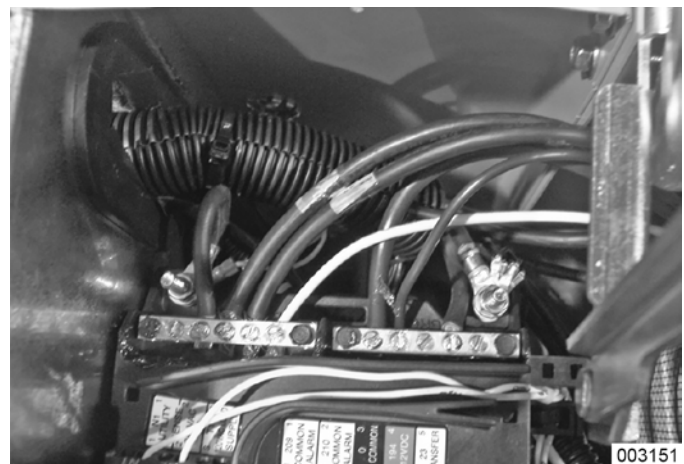

Figure 5-9.
5. **Remove Stator Wires:** See Figure 5-9. Remove all wires from the main circuit breaker, remove the neutral and ground wires from landing lugs.